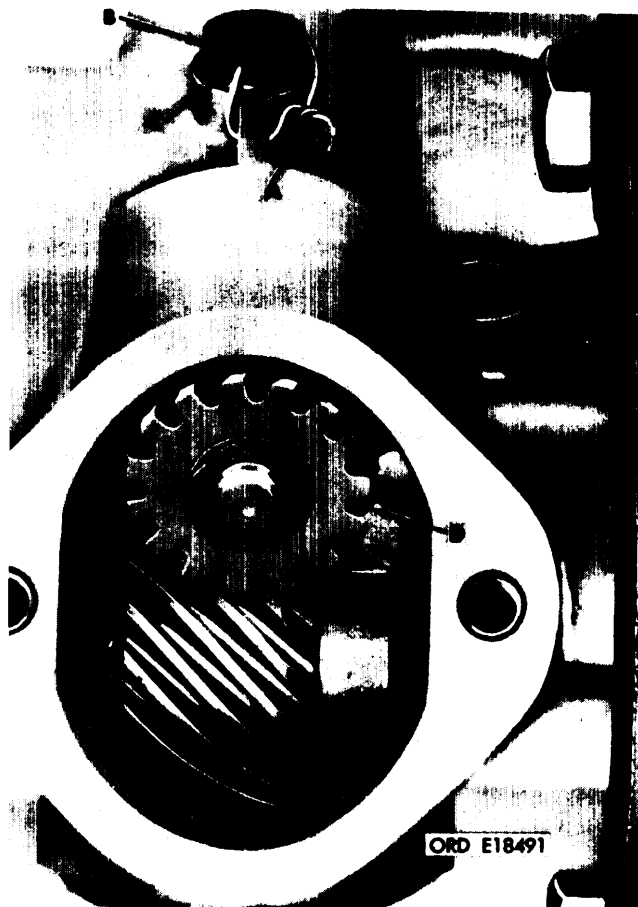

Figure 3-26. Removing quill shaft assembly.
b. Refer to figure 3-26. Cut locking wire (A) and remove machine screw (B) and copper gasket (C). Discard copper gasket. Remove quill shaft assembly (D).